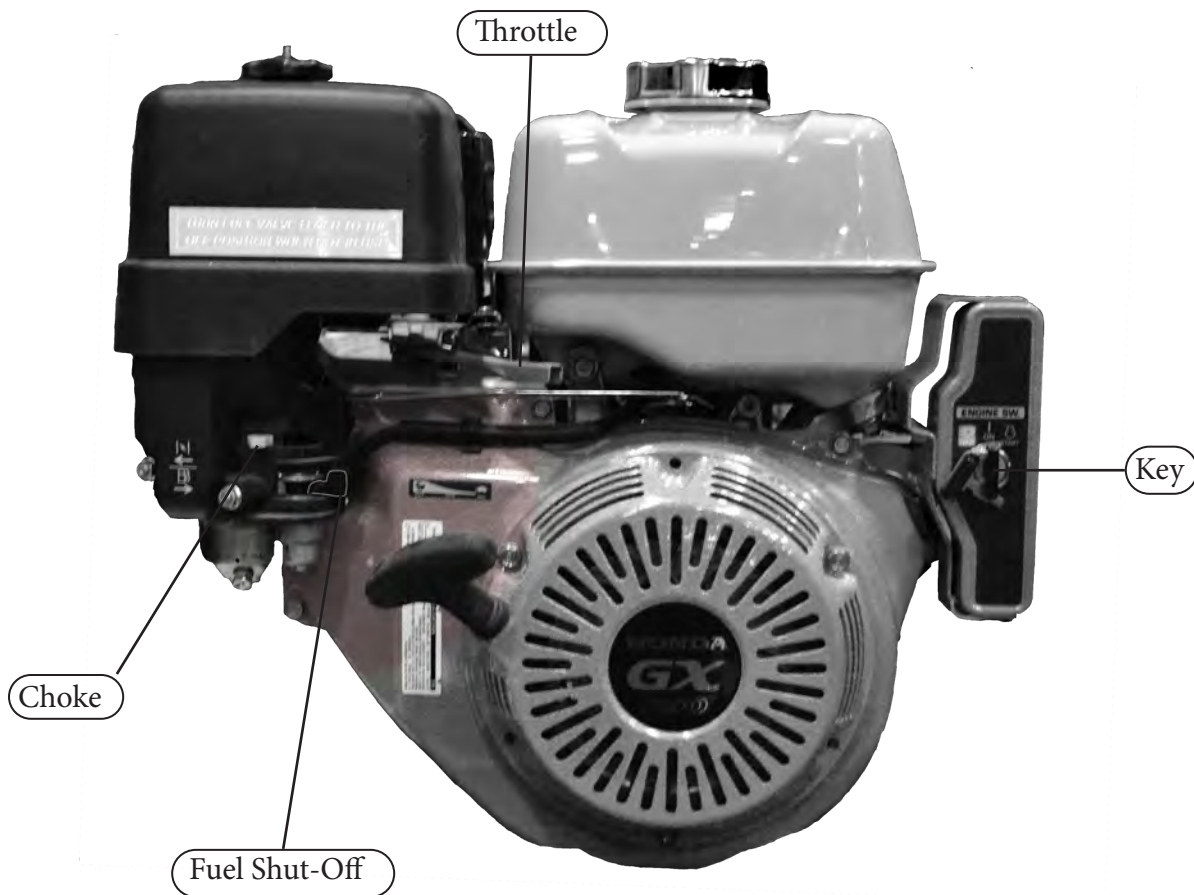

Figure 1.2
2. Slide the Fuel Shut-off Lever to the “ON” position (Figure 1.2).
3. Slide Choke Lever to the “ON” position (Figure 1.2).
5. Turn the key to the start position. Once engine starts, release key (Figure 1.2).
6. After starting, allow the engine to warm-up. Slide choke to the “OFF” position, and increase throttle speed (Figure 1.2).
7. To turn the engine off, slide the Fuel Shut-off to the “OFF” position (Figure 1.2).
3. Start the hydraulic power unit and increase throttle speed. (Allow hydraulic fluid to warm-up.) (Figure 1.2).
2. Start the hydraulic power unit and increase throttle speed. (Allow hydraulic fluid to warm up (Figure 1.2).